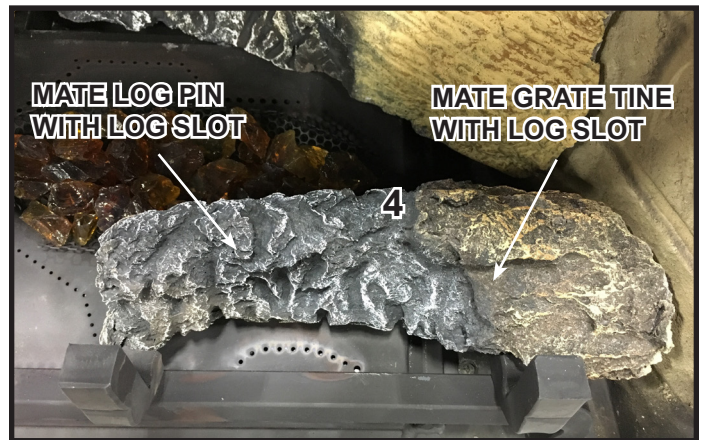

Figure 9. Place Log #4
**Log #4 (SRV2221-706):** Position Log #4 as shown in Figure 9. See Figure 2 and Figure 10 for additional references. Mate the grate tine slot with the base of the right grate tine. The grate tine slot is located on the bottom right end of Log #4. See Figure 10. Slide the right end of the log forward until the tine fully engages the slot. Mate the log pin slot with the right log pin.